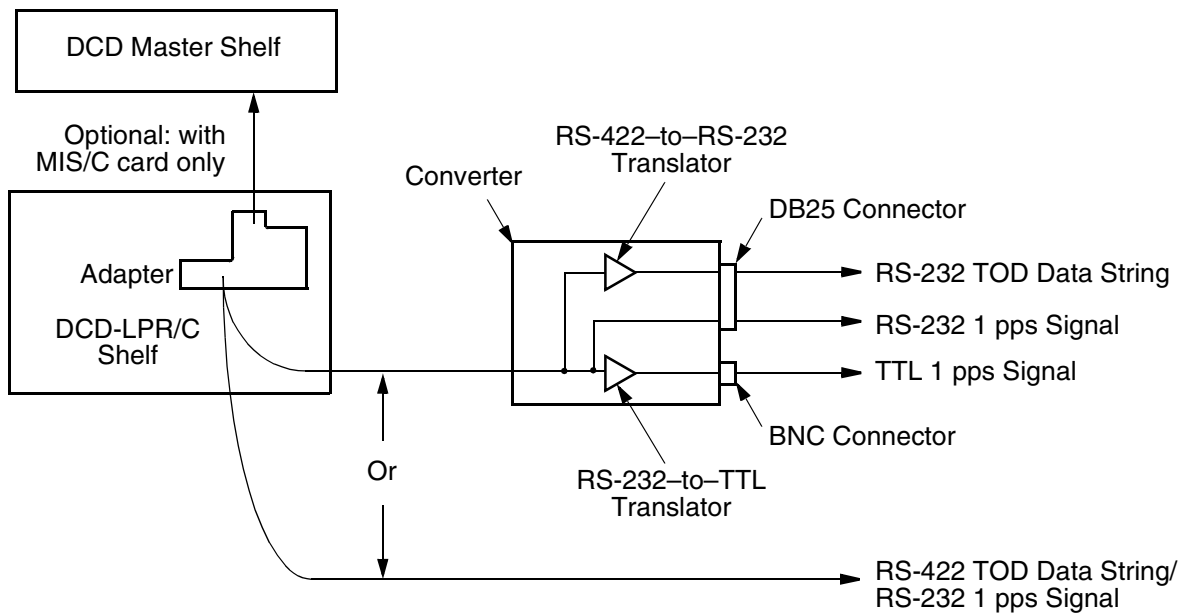

Figure 6. Time-of-Day System
Note: See Figure 6 for a diagram of the TOD system.
1. See Figure 6 for a diagram of the TOD system.
3.11 The TOD engine and accompanying software produce a TOD output stream routed to the adapter. There are two RS-422 outputs from the adapter. If required, an RS-422-to-RS-232 converter can be added to provide an RS-232 signal (Figure 6).